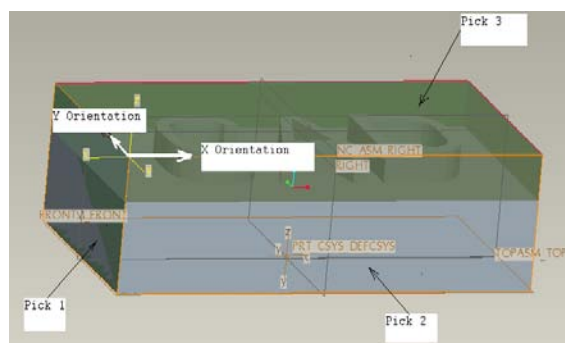
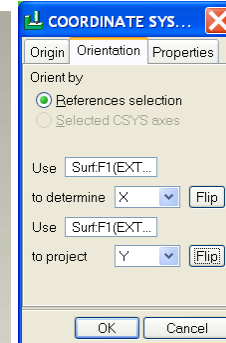

Figure 1.23
Figure 1.24
2. Pick 3 references planes as shown in Figure 1.23 (Click two side and top planes while holding down Ctrl key) to place the coordinate system.
3. Orient X and Y axes (Figure 1.24) along the top edges as shown in Figure 1.23 by clicking the Flip button as shown in Figure 1.24.